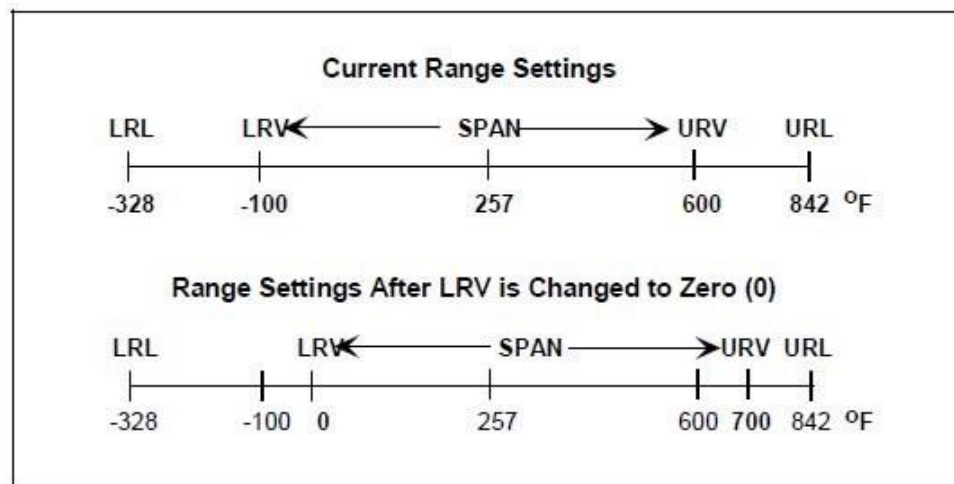

Figure 2-3: Current Range Settings
- The URV changes automatically to compensate for any changes in the LRV and maintain the present span (URV – LRV). See Figure 2-3 for an example.